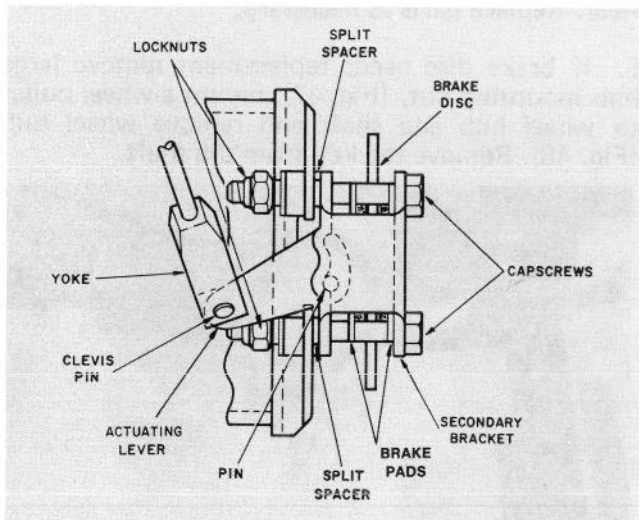

Figure 50
2. Reassemble in reverse order. Insure actuating lever assembly pin fits in lower dimple of secondary bracket of disc brake assembly (Fig. 50).
3. Tighten locknuts on secondary mount bracket capscrews until capscrews can be just rotated with fingers and tighten locknuts 1/4 turn further (Fig. 50).